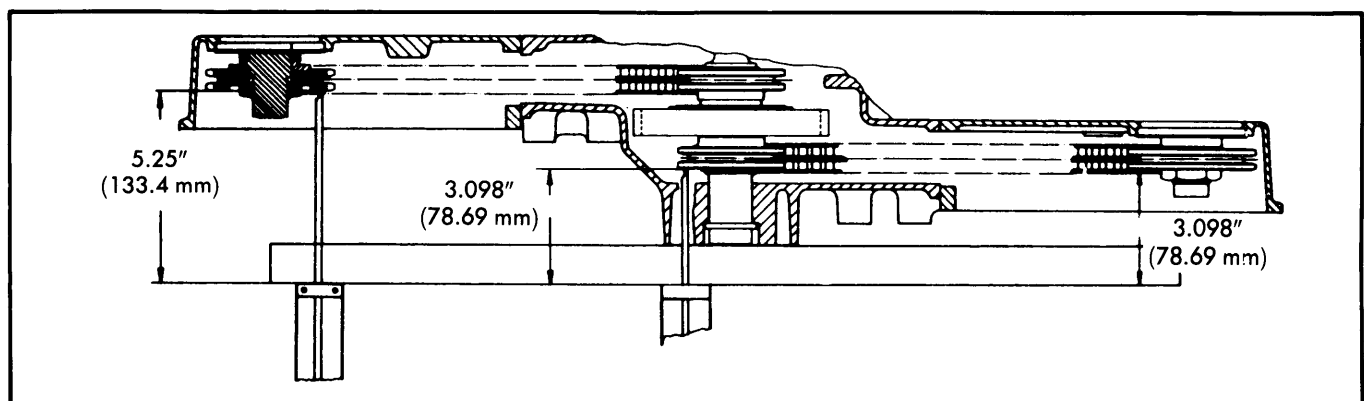

Fig. 5 Top View Showing Timing Chain Alignment
6) Install camshaft sprockets and check chain alignment. See Fig. 5. Install heat exchanger, then chain tensioner. Slide chain guides on mounting studs. Lift retaining spring with screwdriver and slide chain guide into place. Install chain tension pivot lever and sprocket. Ensure that oil holes in pivot stud face upward.
Remove timing chain housing covers. Remove chain tensioner and chain tensioner sprocket. Remove timing chains. Install in reverse order of removal, ensuring that valve timing and chain alignment are as specified. See *Figs. 5 and 7*.